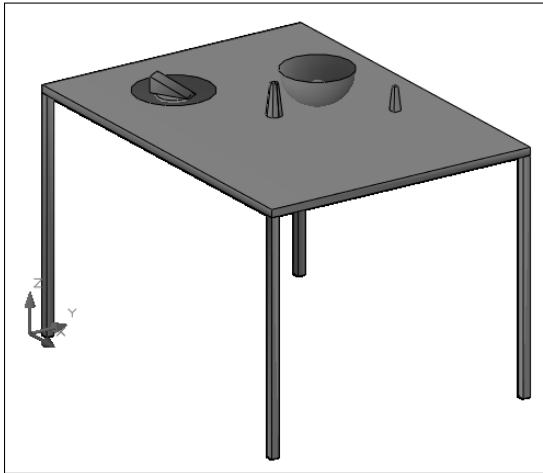

**Figure 23-22:** The table with a plate, wedge of cheese, bowl, orange, and nonmatching salt and pepper shakers.
15. Save your drawing. It should look like Figure 23-22. If you look carefully, you'll see that the edge of the cheese wedge goes slightly through the plate.